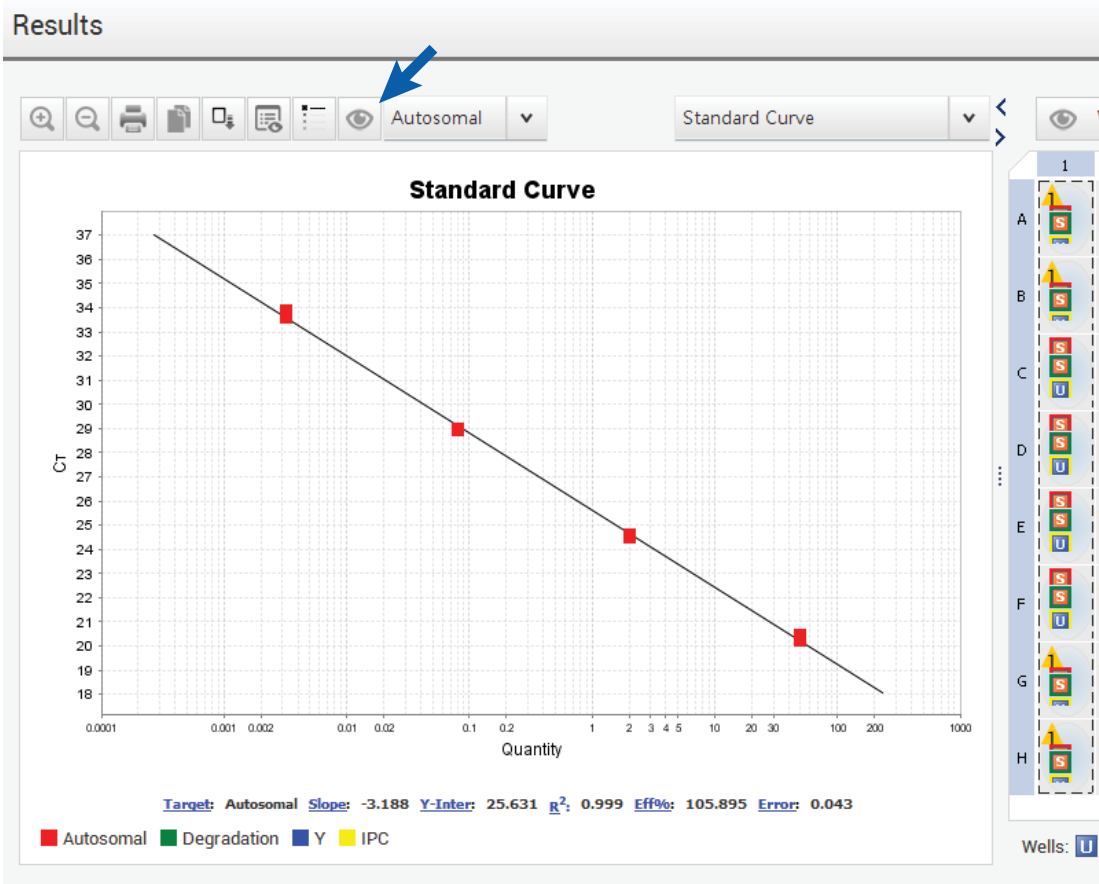

Figure 54. Displaying the standard curve for the autosomal target.
3. Display the standard curve for each individual target by selecting the Eye icon (Figure 54). The standard curve for each target may be viewed by choosing the appropriate target from the 'All Target' drop-down menu (Figure 54). The standard curve parameters are located below the standard curve plot.